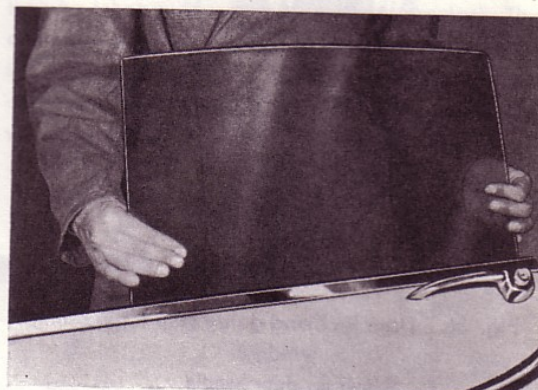

Fig. 24. Taking out the winding window.
3. Move the window backwards and turn it inwards so that it releases from the groove in the winding mechanism, see Fig. 24.